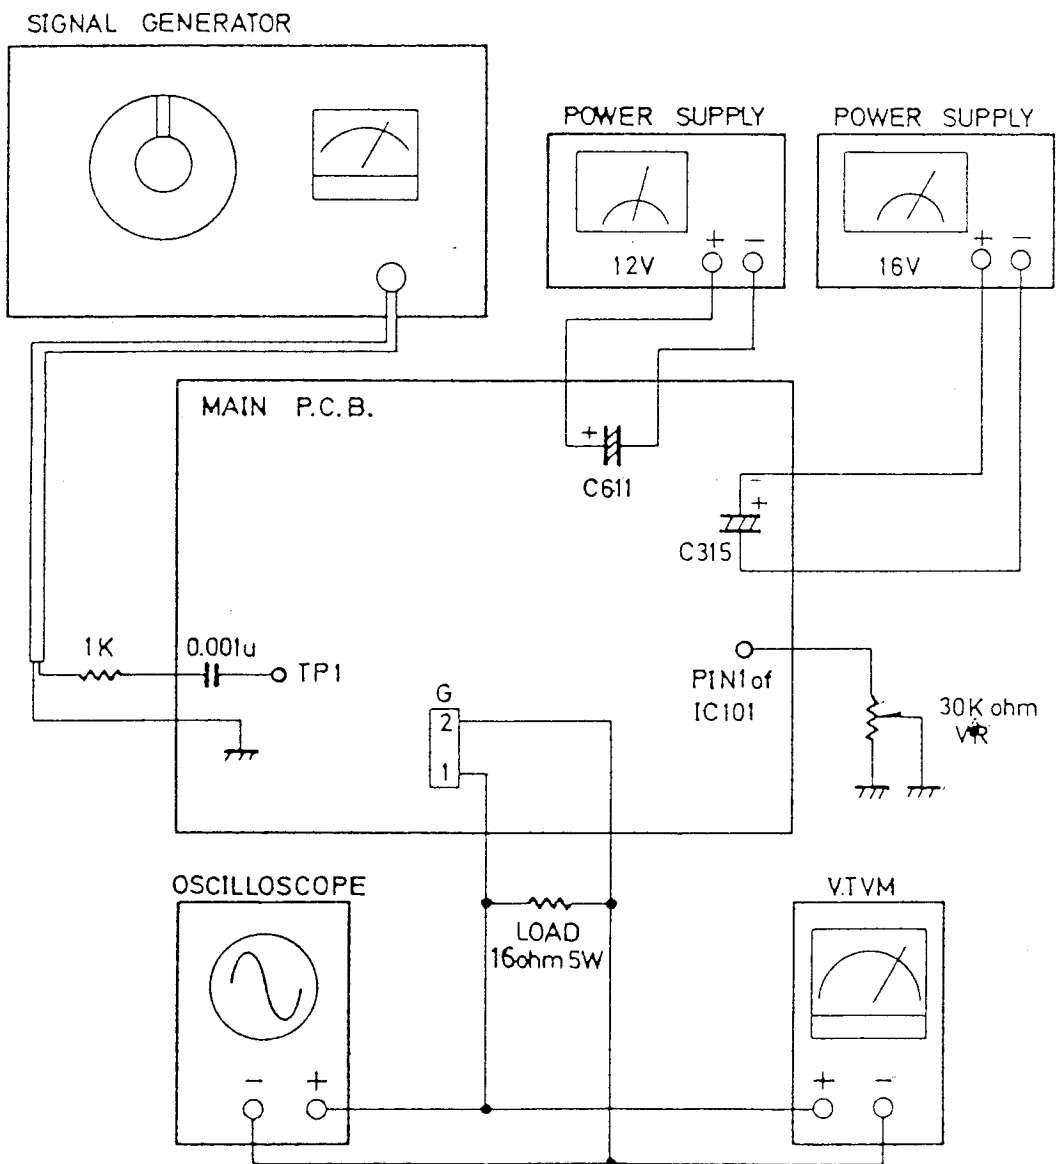

Fig. 11
- (1). The signal at AM/FM signal generator which is set at SIF Frequency (6 MHz for 1 system) with AF 400Hz, 30% FM modulation is applied to TP1 through a 1K ohm resistor and a 1000pf capacitor. As shown in figure 11.
- (2). Short pin 5 of IC101 to ground.
- (3). Connect a 30K ohm VR to pin 1 of IC101.
- (4). Connect a 16 ohm dummy load across socket G pin 1,2 in parallel with an oscilloscope and VTVM.
- (5). Apply a +16V DC across C319 and +12V DC across C611 on Main board.
- (6). Adjust the 30K ohm VR for maximum undistorted output.
- (7). Fine adjust L106 to obtain a maximum amplitude signal output with minimum distortion.
- (8). Check the audio output level with 1W (4 V) at maximum volume position.